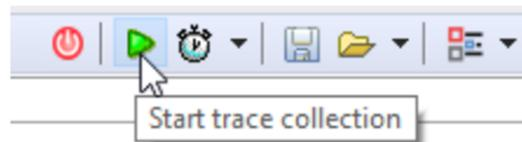

Figure 39. Start Trace Collection
7. Click the green play button to start capturing data (see Figure 39). The red LED on the XDS110 debugger should be turned on, and will be so for the duration of the EnergyTrace capture.